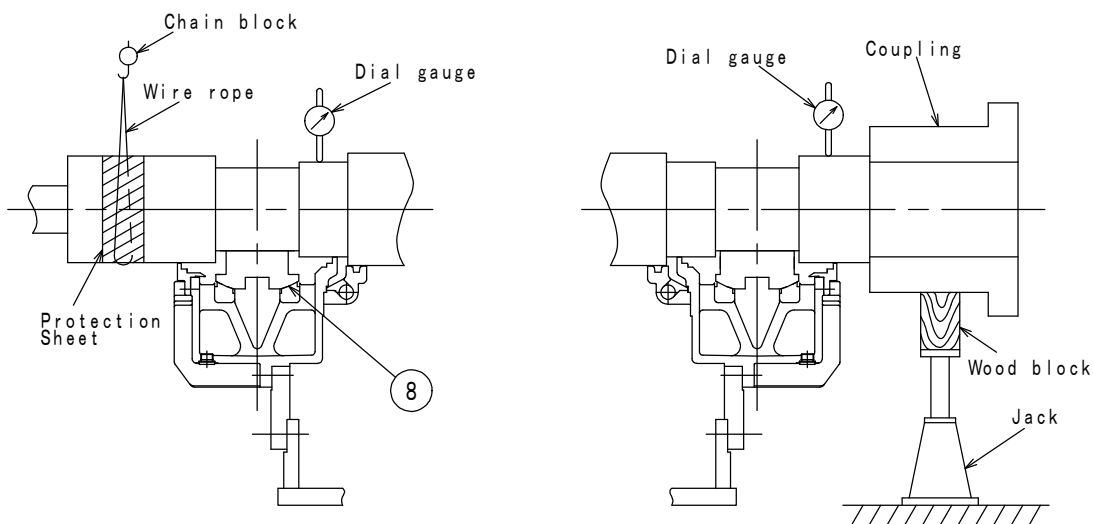

Fig. 8
6.2.6 Disassembly of bearing shell lower half (see Fig. 8, 9, 10)